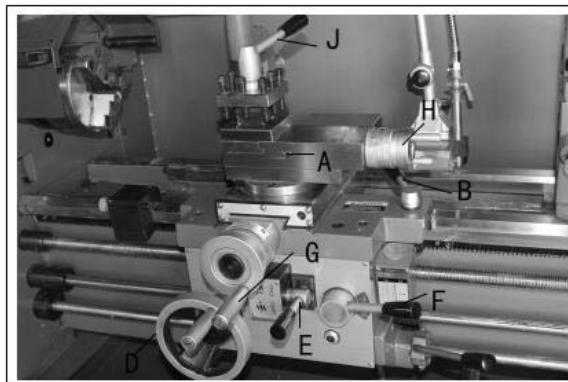

Figure 15
8. **Compound Lock** (A, Fig. 15) – hex socket screw located on left side of compound. Turn clockwise to lock and counterclockwise to unlock.
9. **Carriage Lock** (B, Fig. 15) – lock handle located on top of carriage. Turn clockwise to lock. Turn counterclockwise to unlock.
10. **Longitudinal Traverse Hand Wheel** - (D, Fig. 15) – located on the apron assembly. Rotate hand wheel clockwise to move the apron assembly toward the tailstock. Rotate the wheel counterclockwise to move the apron assembly toward the headstock.
11. **Feed Selector** (E, Fig. 15) – located in the center front of the apron assembly. Pushing lever to the left and down activates the crossfeed function. Pulling lever to the right and up activates the longitudinal function.
12. **Half Nut Engage Lever (thread cutting)** (F, Fig. 15) – located on front of the apron. Move the lever down to engage. Move the lever up to disengage.
13. **Cross Traverse Handwheel** (G, Fig. 15) – located above the apron assembly. Rotate clockwise or counter-clockwise to move, or position.
14. **Compound Rest Traverse Handwheel** (H, Fig. 15) – located on the end of the compound slide. Rotate clockwise or counter-clockwise to move, or position.
15. **Tool Post Clamping Lever** (J, Fig. 15) – located on top of the tool post. Rotate counter-clockwise to loosen and clockwise to tighten.